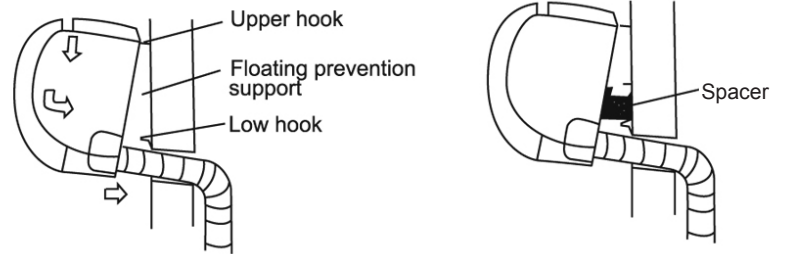

Fig.12
2. Put the upper claw at the back of the indoor unit on the upper hook of the installation plate, move the indoor unit from side to side to see that it is securely fastened (see Fig.12).